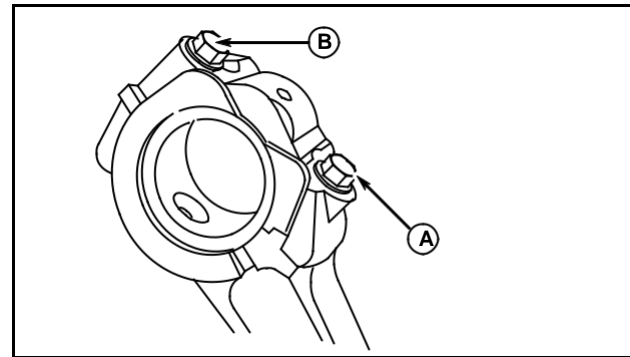

Fig. 19
- B. **NEXT** torque 1/2" hex connecting rod screw to 260 in. lbs. (23 Nm), Fig. 19.